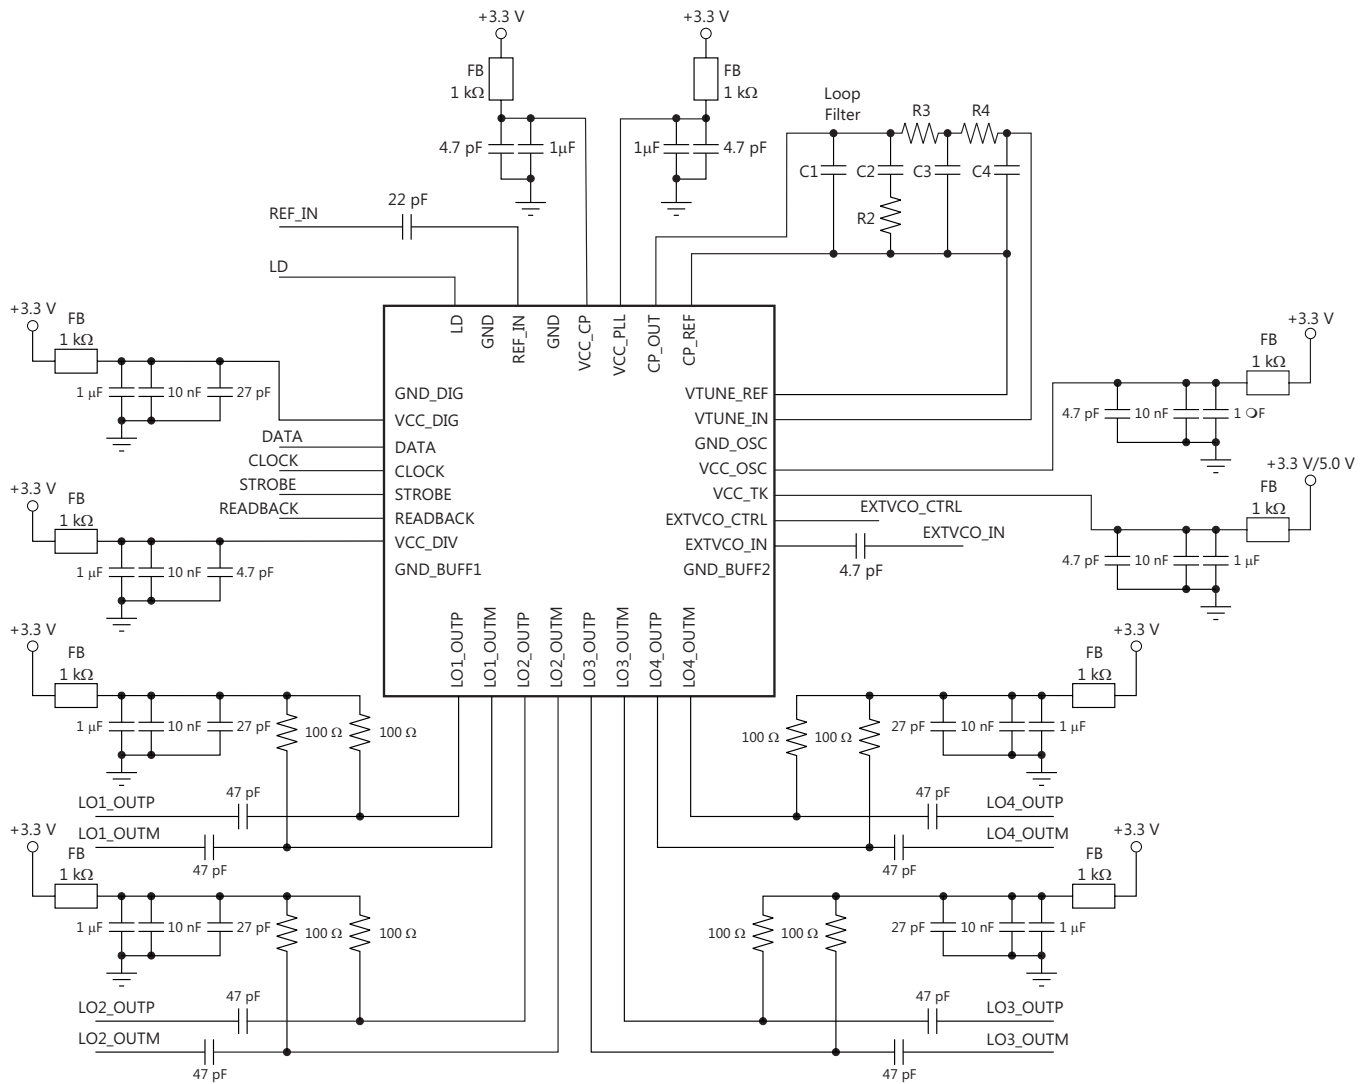

Figure 69. TRF3765 Application Schematic
Figure 69 illustrates a typical application schematic for the TRF3765. Table 21 lists the pin termination requirements and interfacing for the circuit.
- Changed VCC\_OSC From: +3.3V/5.0V To: +3.3V, and VCC\_TK From: +3.3V To: +3.3V/5.0V in Figure 69 ..... **42**